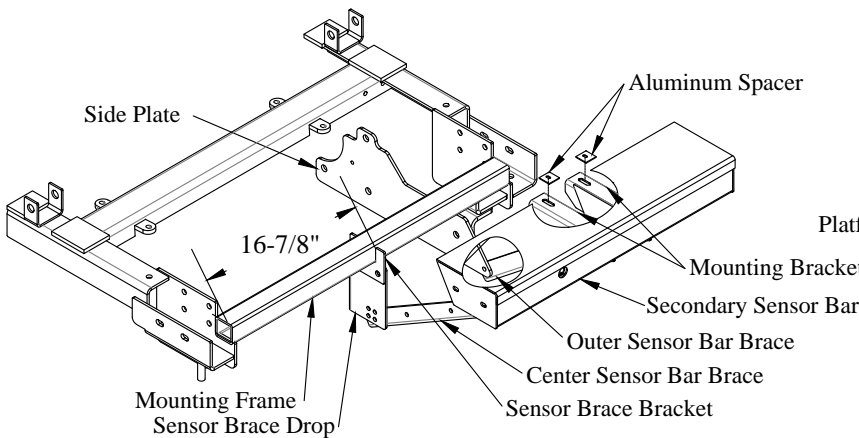

Figure 3: Secondary sensor bar.
2. **Bolt** the sensor brace drop to the mounting frame using provided 1/2" bolts, washers, lock washers, and nuts (Figure 3).
3. **Bolt** the mounting brackets of the secondary sensor bar to the under side of the van using mounting hardware from the bumper and provided aluminum spacers as needed (Figure 3).
4. **Bolt** the outer sensor bar brace between the liftgate side plate and secondary sensor bar using provided 3/8" bolts, washers, lock washers, and nuts (Figure 3).
5. **Bolt** the center sensor bar brace between the sensor brace drop and secondary sensor bar using provided 3/8" bolts, washers, lock washers, and nuts (Figure 3). Make sure secondary sensor bar is level.